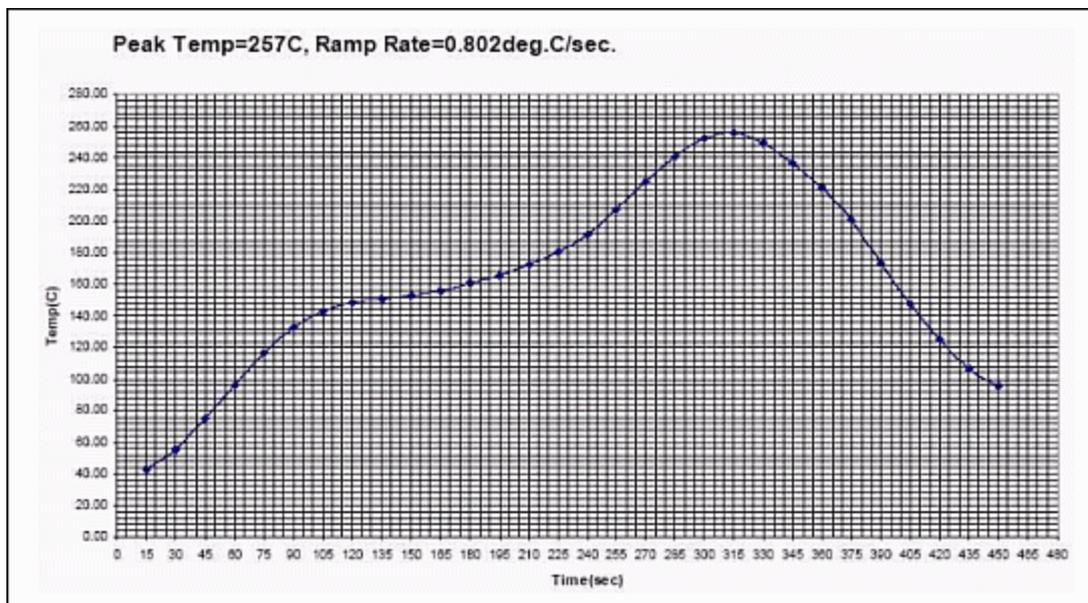

Figure 7. Typical temperature profile for Sn96.5Ag3.5 and Sn-Ag-Cu "Pb-Free" solder paste.
- "Pb-Free" solder paste reflow: Nominal peak temperature is  $250^{\circ}\text{C} \pm 10^{\circ}\text{C}$  with time above the  $217^{\circ}\text{C}$  to  $221^{\circ}\text{C}$  melting point of  $60\text{s} \pm 15\text{s}$ , which should be verified at machine setup by inline thermocouple measurements oven profiling. A typical "Pb-Free" solder paste reflow temperature profile is shown in **Figure 7** for Sn96.5Ag3.5 and SnAg(2-4)Cu(0.5-0.8) alloys.